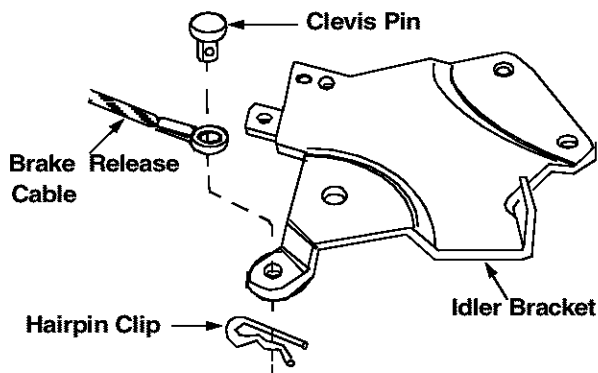

Figure 14
- Secure the brake release cable to the tractor idler bracket with clevis pin and small hairpin clip, using the hole in the idler bracket as shown in Figure 14.